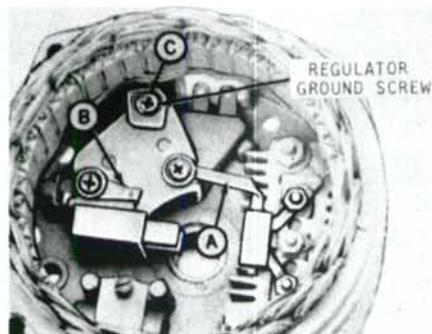
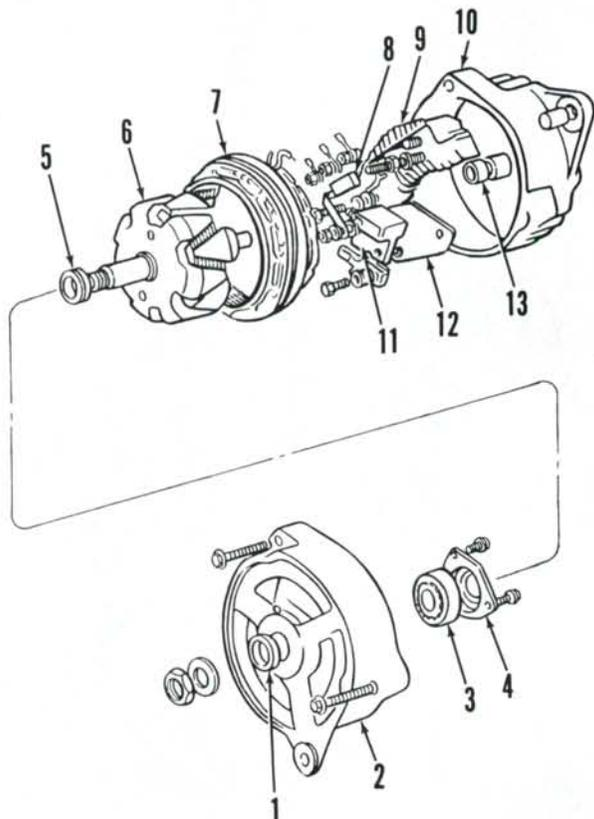
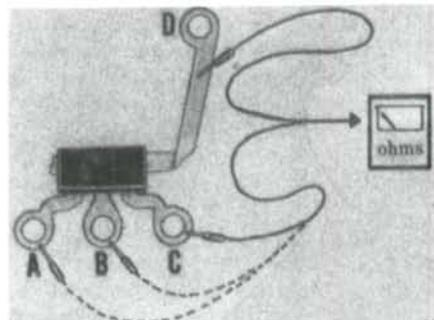

Fig. 136—Screws at "A" and "B" connections must use insulating washers. Screw at "C" is a ground connection.
Fig. 135—Exploded view of Delco alternator used on some tractors.
Fig. 137—Connect ohmmeter as shown to test diode trio as outlined in paragraph 178.
**174. DISASSEMBLY.** Scribe alignment marks across alternator housings to ensure proper reassembly. Remove housing retaining bolts, then separate drive end housing (2—Fig. 135) and
rotor (6) from rear housing (10). Remove retaining nut, pulley and fan from rotor shaft and withdraw rotor from housing. Remove retainer plate (4) and bearing (3). Note location of insulating washers under screws at "A" and "B" connections (Fig. 136) at brush holder, then remove retaining screws and nuts. Remove diode trio (8—Fig. 135), brush holder (11), regulator (12) and rectifier assembly (9). Press needle bearing (13) inward to remove from housing.
**178. DIODE TESTS.** To test diode trio (8—Fig. 135), connect a battery operated ohmmeter lead to diode trio at "D", Fig. 137 and remaining lead to
179. REASSEMBLY. Note position of insulated washers (Fig. 136) when reassembling. If needle bearing (13—Fig. 135) is being renewed, press new bearing into housing from the outside until bearing is flush with outside of end frame. Push brushes against spring pressure, then insert a plastic pin or toothpick through holes in brush holder and end frame to hold brushes in retracted position. Be sure to align scribe marks when assembling housings. Make certain that pin retaining the brushes is removed after housings are assembled.